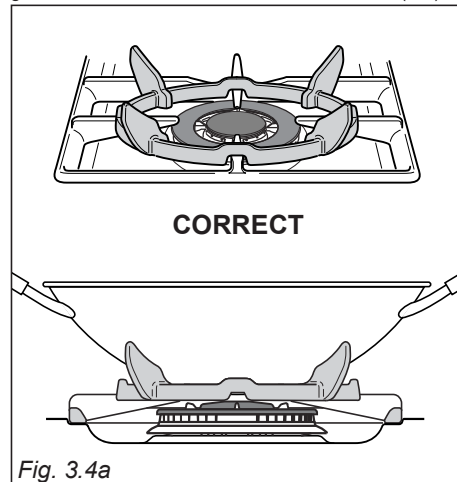
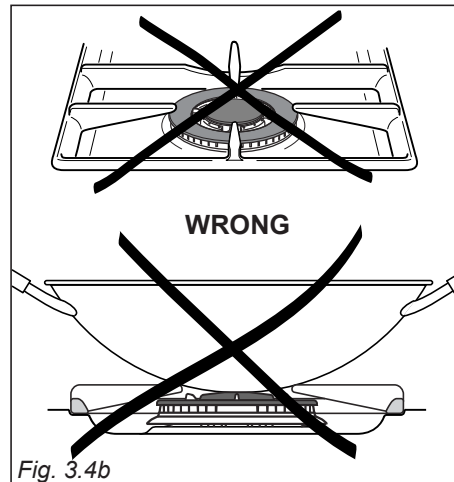
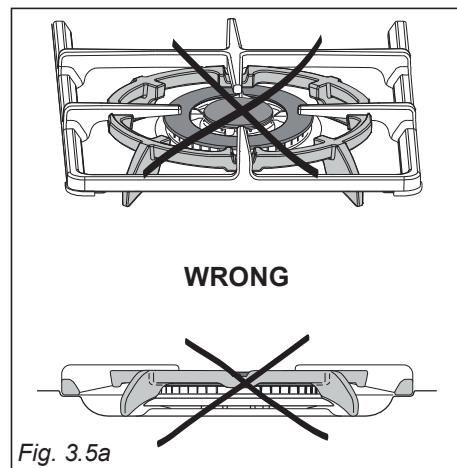

Fig. 3.4a
Fig. 3.4b
Fig. 3.5a
Only flat bottom pans of the correct size are to be placed on the pan support above the Double-ring compact burner. When using a WOK, the supplied wok stand **must** be placed onto the pan stand to avoid any faulty operation of the triple-ring burner (fig. 3.4a). The wok **should not** be placed directly onto the pan support without the use of the supplied wok stand (fig. 3.4b).
When using the wok stand it **MUST ONLY BE PLACED** over the pan support for the double-ring compact burner (fig. 3.4a). **Under no circumstances should the wok stand be placed under the pan supports** (figs. 3.5a - 3.5b). Incorrect placement of the wok stand in this manner may impinge the flame resulting in incomplete combustion and give rise to harmful levels of Carbon Monoxide (CO).